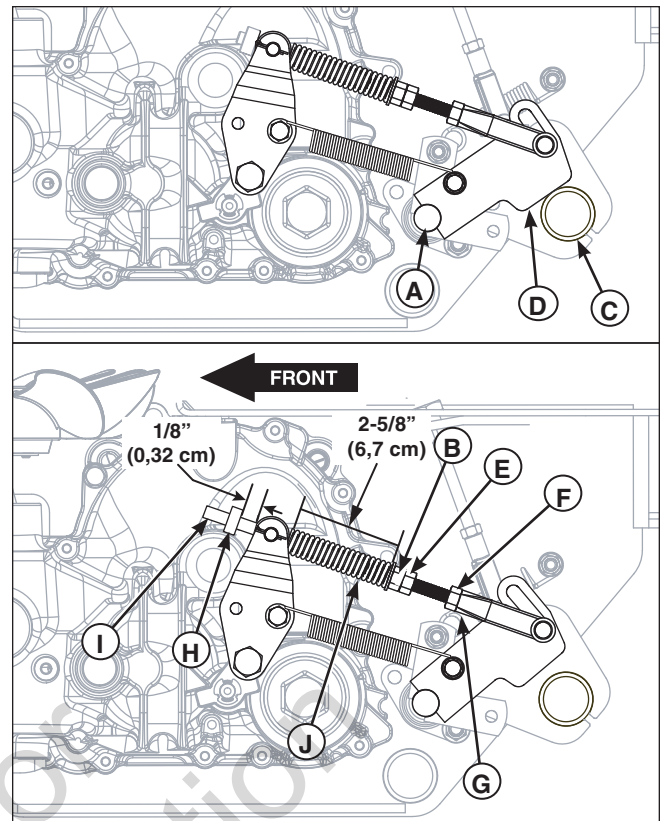

Figure 32. Parking Brake Adjustment (RH Side Shown)
4. Locate the brake linkage bar (A, Figure 32) underneath the back of the machine. Make sure that the clevis is flush with the end of the cable thread with the parking brake disengaged and the tabs (D) should contact the rear bumper bar (C).
2. Loosen the set collar (H, Figure 32) on the front of the brake shaft (I).
3. Locate the brake springs (J) underneath the rear of the machine.